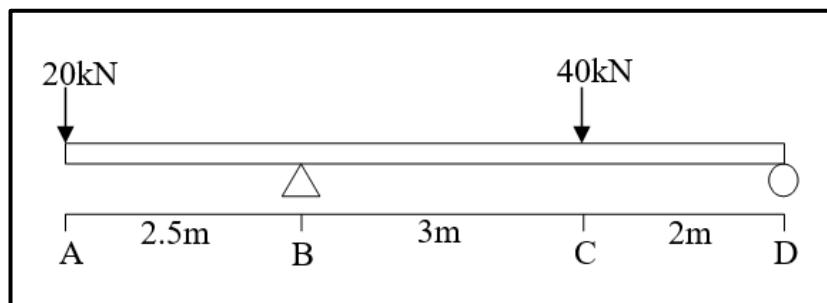

Figure 4(b)
- (b) An overhang beam 7.5 m in length is subjected to loads as shown in Figure 4(b). Given the reaction  $B_Y = 46 \text{ kN}$ , sketch the Shear Force Diagram of the beam.